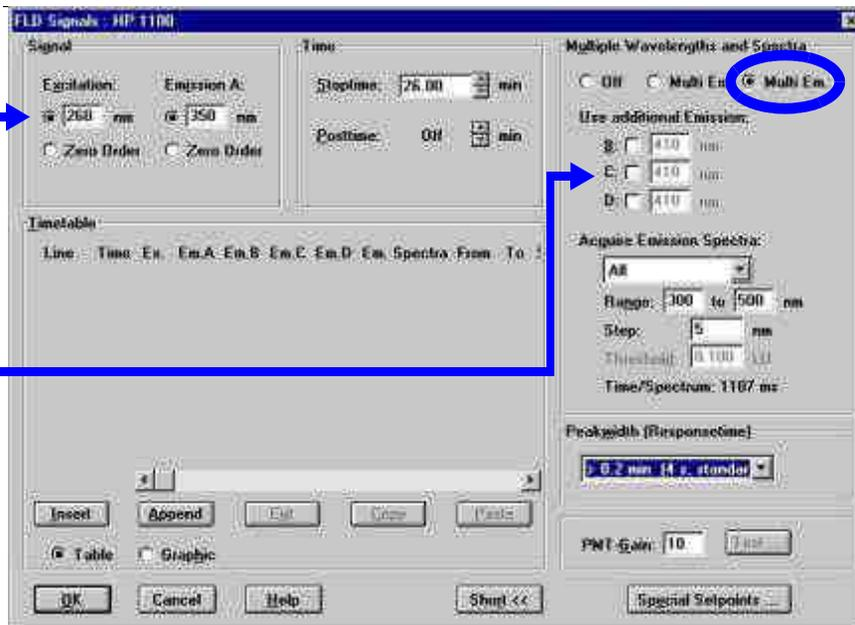

Figure 18 Detector Settings for Emission Scan
- 1 This example uses the following chromatographic conditions (the detector settings are shown in Figure 18 on page 56).